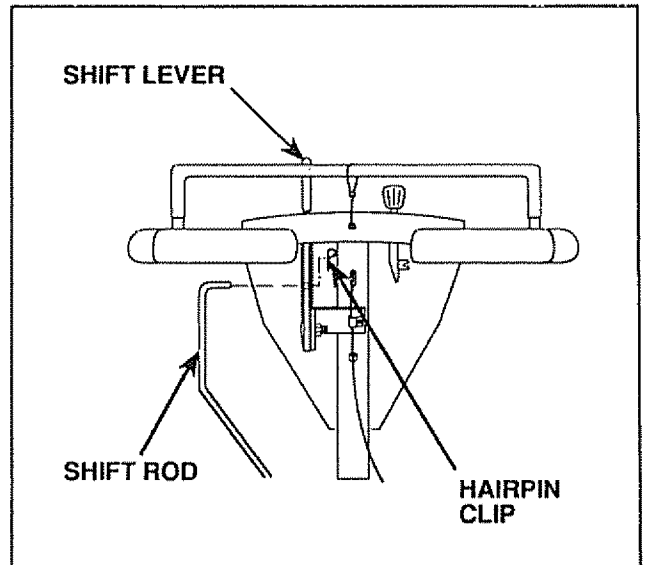

FIGURE 8
- Insert other end of Shift Rod into hole in Shift Lever (Fig. 8)